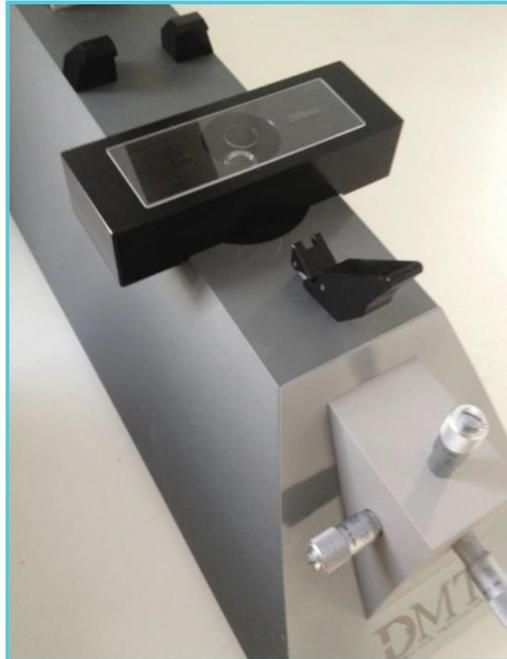

Figure 2.3 Place the micrometer positioner ruler on DMT Inverted Microscope
2. Place the supplied micrometer ruler on the microscope and adjust the microscope to get the ruler in focus. DMT Inverted Microscope users place the micrometer ruler on the supplied micrometer positioner ruler adaptor as shown in figure 2.3.